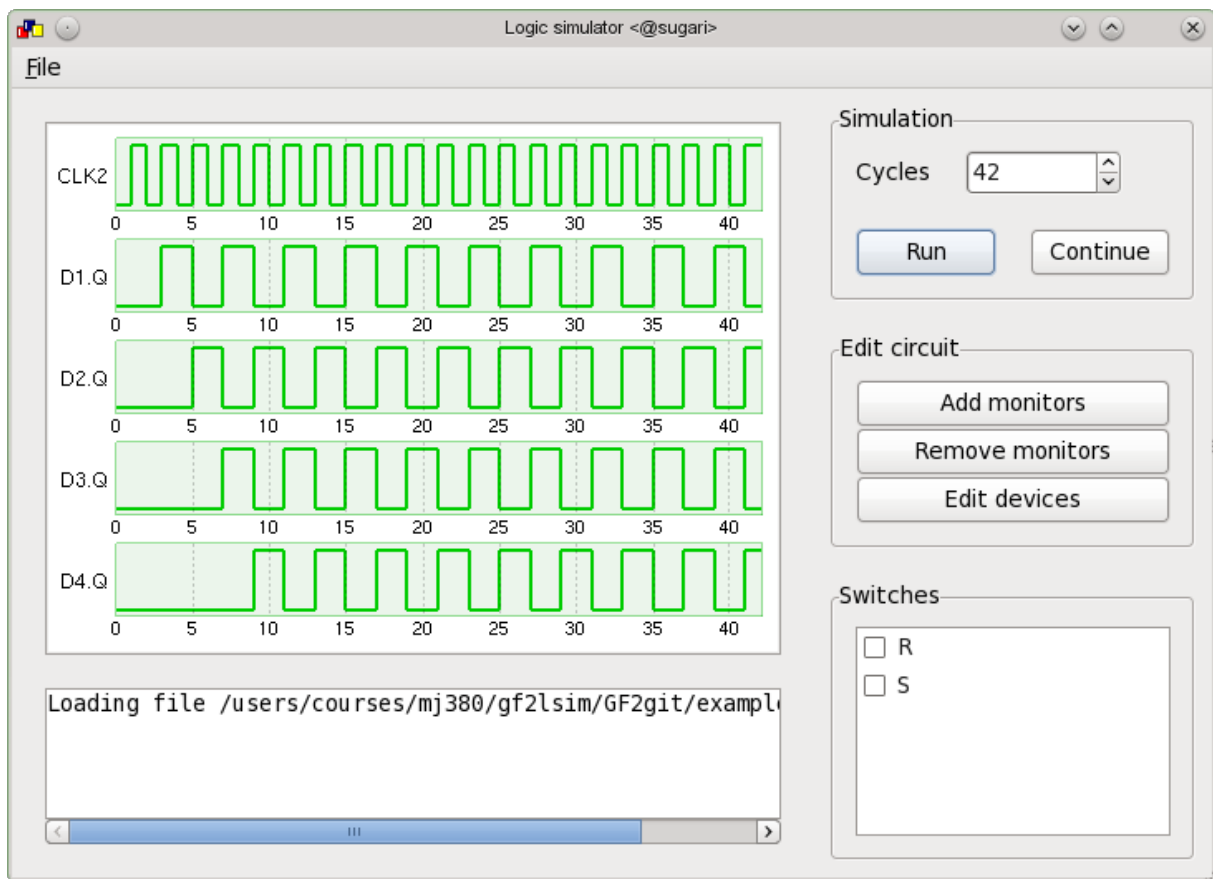

Figure 1: Main logic simulator window
**Running the simulation.** After opening a circuit, select the number of cycles to simulate using the textbox in the top right corner. Then click the “Run” button just below the textbox. Results will be displayed in the large space to the left (see figure 1). The run button clears the displayed results and simulates the circuit for the specified number of cycles. To simulate for additional cycles without clearing the displayed results, use the “Continue” button instead. The only limit on the number of displayed signals and simulated cycles is the available memory on the computer. If necessary, scrollbars will appear around the result display area.